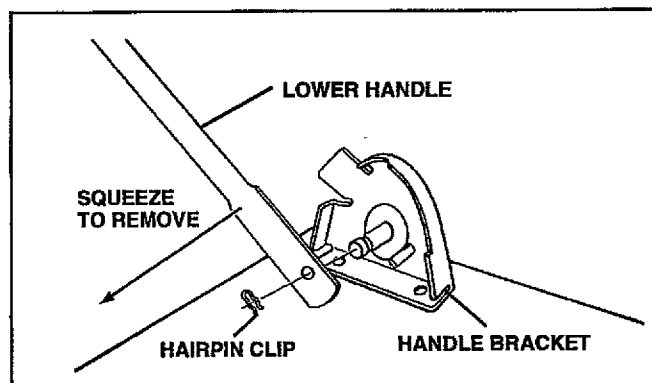

FIG. 12
- Disconnect the lower handle from the handle brackets (See Fig. 12).